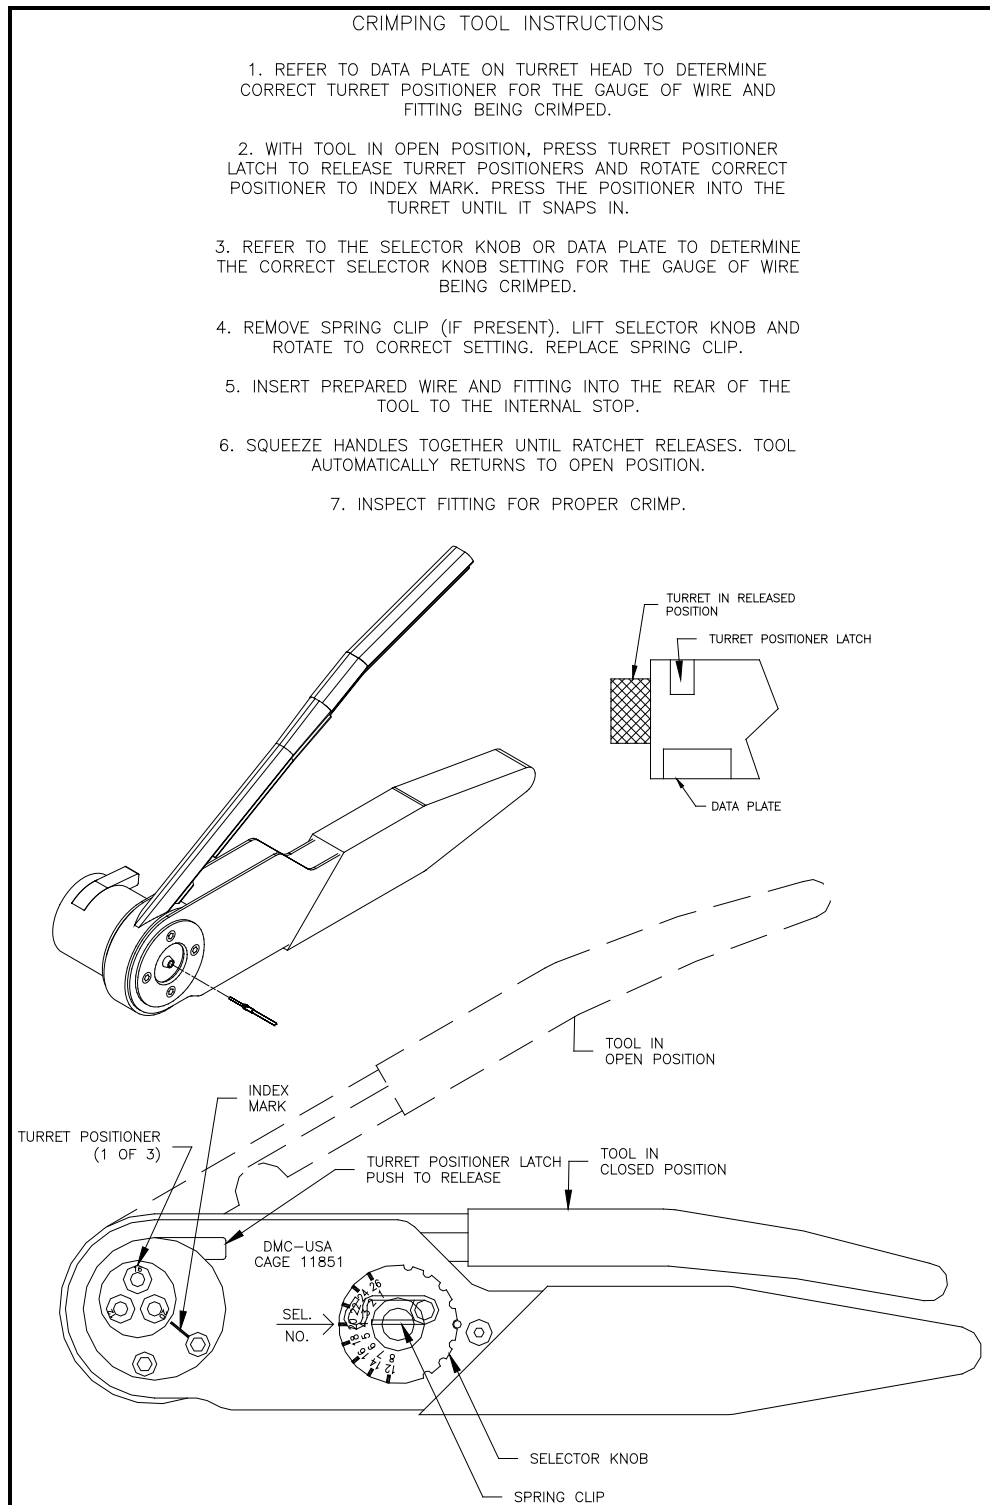

FIGURE 37: CABLE ASSEMBLY DETAIL CRIMPING TOOL
- f. All connector pins must be crimped with the proper tool. For the MS3470 / MS3471 / MS3476 series connectors, use the M22520/1-01 four-point crimper with M22520/1-02 positioning die, per Figure 37.